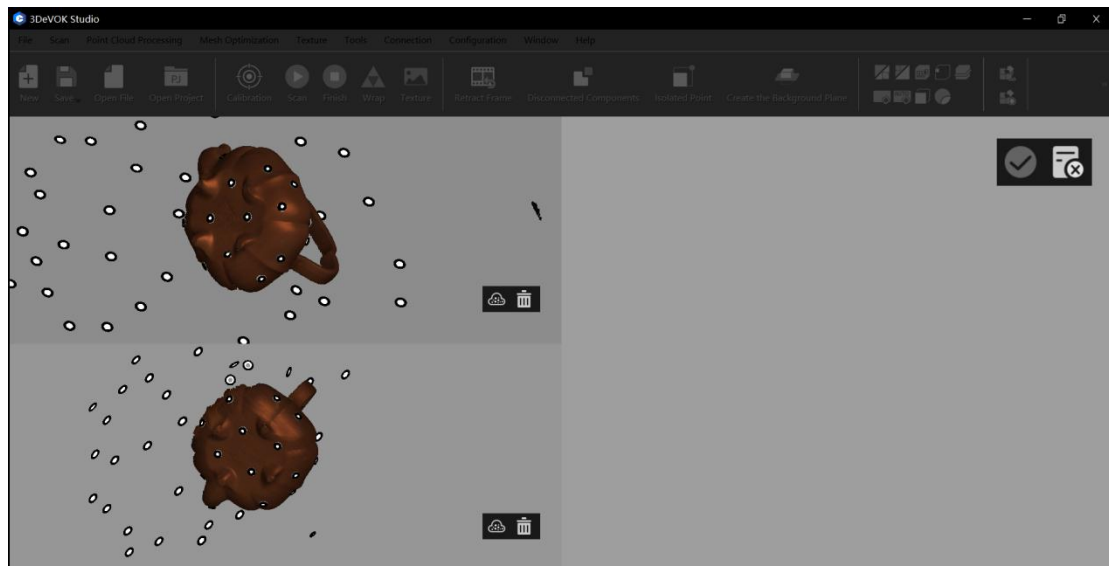

Figure 9-6 Import Point Cloud Projects in Model Stitching (Markers)
3. Import the target point cloud projects (Project A and Project B) into the dual-view workspace by clicking the import button (highlighted in red frame), which is shown in Figure 9-6.